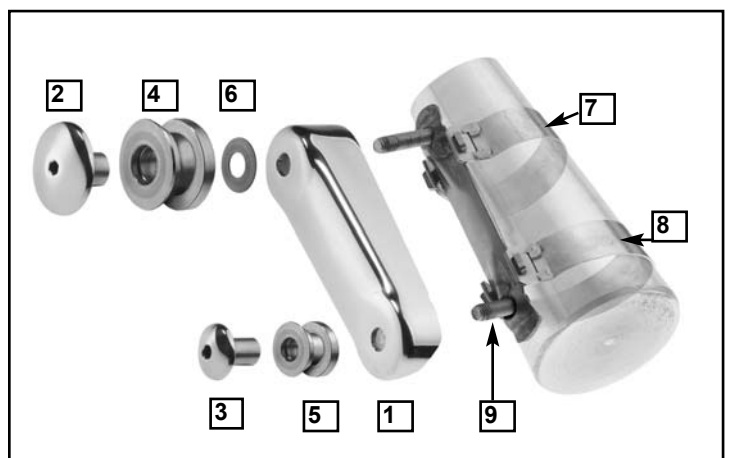

Figure 2.
5. Position the Mounting Cup (1) on to the Spider Bracket so the studs protrude from the holes. **Figure 2.**
6. Place a Brass Washer (6) onto the top stud. **Figure 2.**
7. Push the large Upper Nut (2) into the large Upper Spool (4) so the thin side of the spool is near the head of the Upper Nut. **Figure 2.**
9. Assemble the Lower Spool (5) and Lower Nut (3) so the thin side of the Spool is near the head of the Lower Nut.